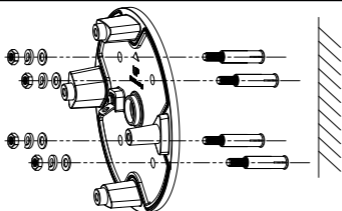

Figure 2-5 Fix the Base Plate
- 3). Fix the base plate onto the wall with the flat gaskets, the spring washers, and the screw nuts as shown in Figure 2-5.